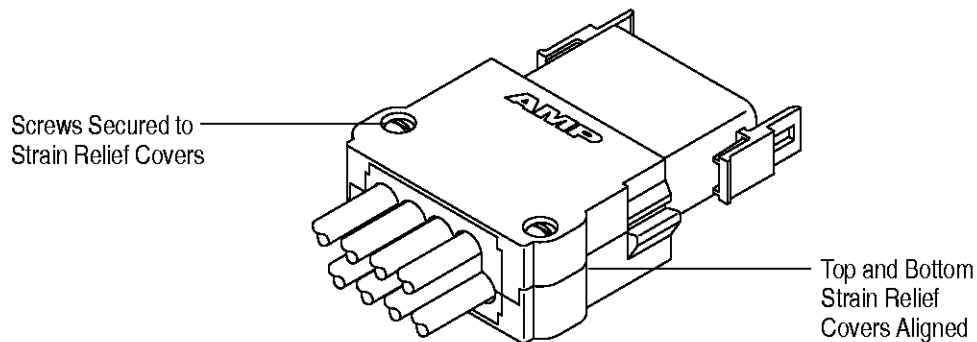

Figure 10
7. The top and bottom strain relief covers must align properly and the four self-tapping screws must be secured to the covers. See Figure 10.